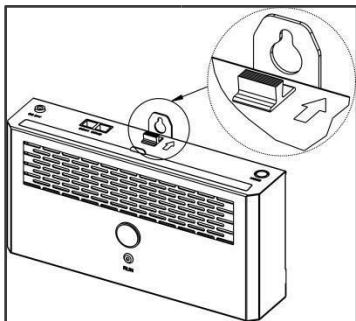

Figure 4.9 Schematic diagram of photocatalyst component maintenance step 2
- 2) Push the switch on the top of the sterilizer backward, as shown in Figure 4.9